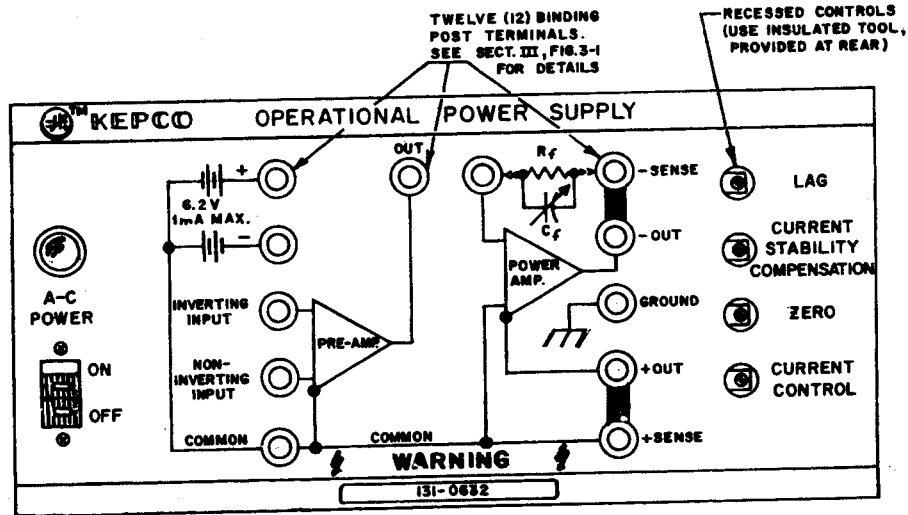
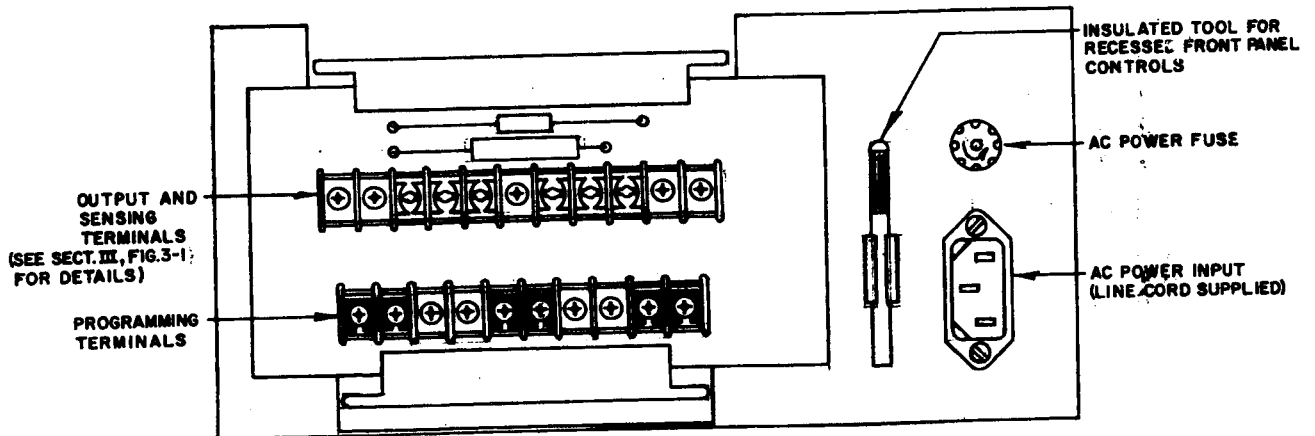

FIG. 2-1 FRONT PANEL, OPS GROUP IX MODELS.
FIG. 2-2 REAR TERMINATIONS, OPS GROUP IX MODELS.
- FRONT PANEL: Refer to FIG. 2-1.
- REAR: Refer to FIG. 2-2.
- 2-12 A simple operating check, after unpacking and before permanent installation, is advisable to ascertain whether the OPS has suffered damage resulting from shipment. Refer to FIG. 2-1 and FIG. 2-2 for the location of the operating controls and the rear terminals.